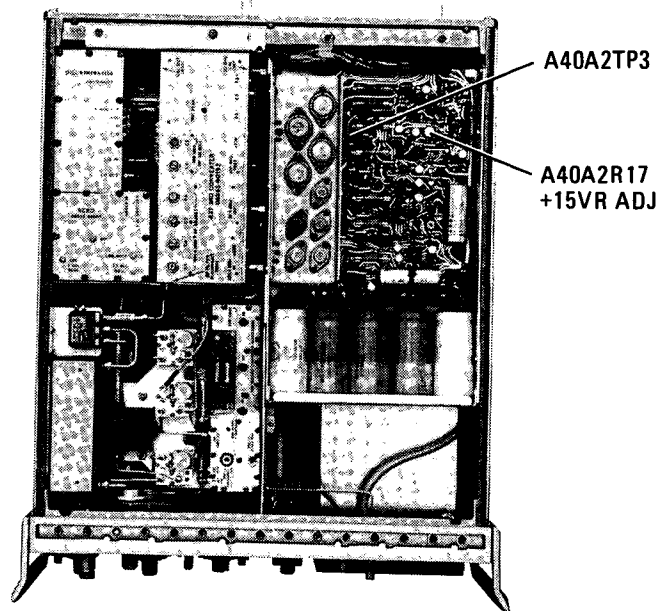

Figure 5-2. A40A2 Adjustment Locations
3. Adjust +15VR ADJ potentiometer A40A2R17 for $+15.000 \pm 0.005$ Vdc at A40A2TP3 (Figure 5-2).